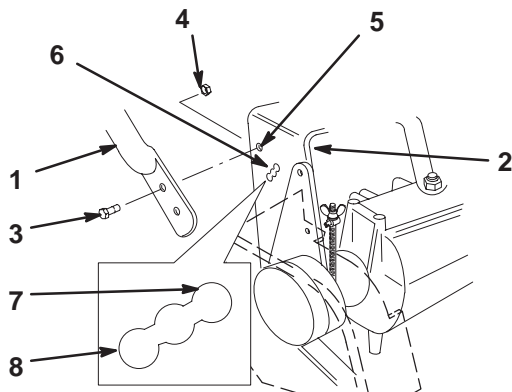

Figure 6
1. Align upper handle with upper mounting holes in rear frame (Fig. 6).
2. Secure each upper mounting hole with a flange bolt (3/8 x 1 in.) and flange nut (Fig. 6). Torque bolts to 34 N•m (25 ft.-lb.).
3. Select high, medium or low position for the lower mounting hole (Fig. 6). This allows the upper handle to be adjusted to the user's height preference.
4. Secure each lower mounting hole with a flange bolt (3/8 x 1 in.) and flange nut (Fig. 6). Torque bolts to 34 N•m (25 ft.-lb.).